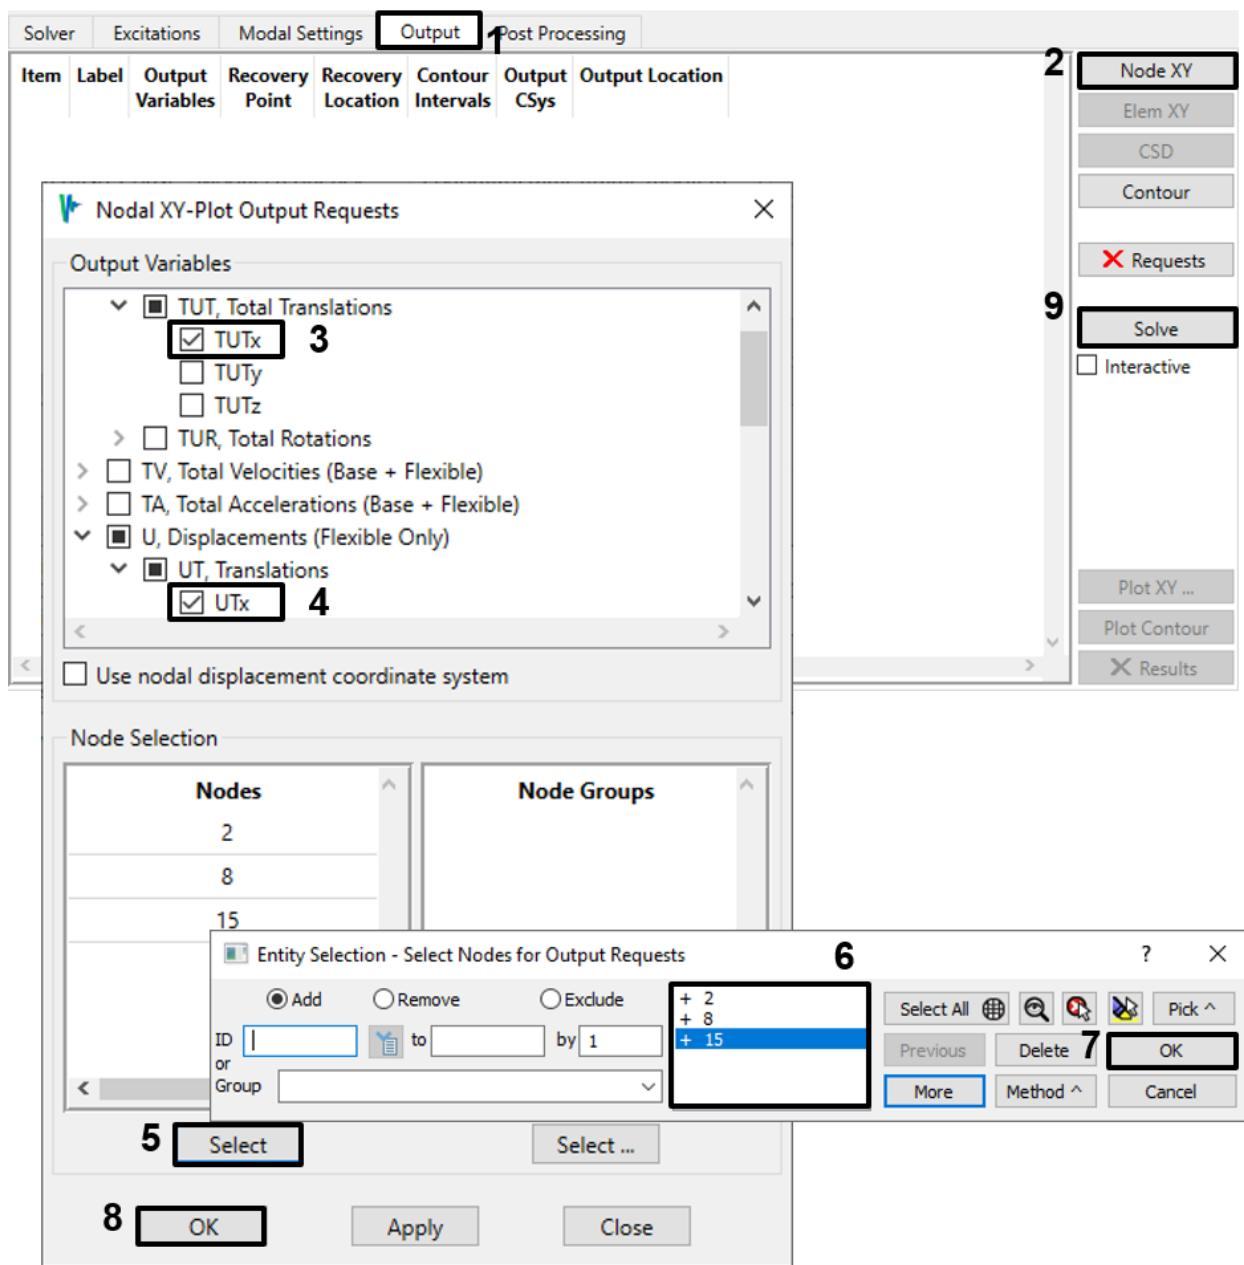

Figure 4-33. Request both flexible and total nodal X-translation plots.
6. On the *Output* tab, create a Node XY output request for flexible and total X-translations (*TUTx* and *Utx*) for the center base (node 2), center second floor (node 8) and upper right corner (node 15), as shown in Figure 4-33.